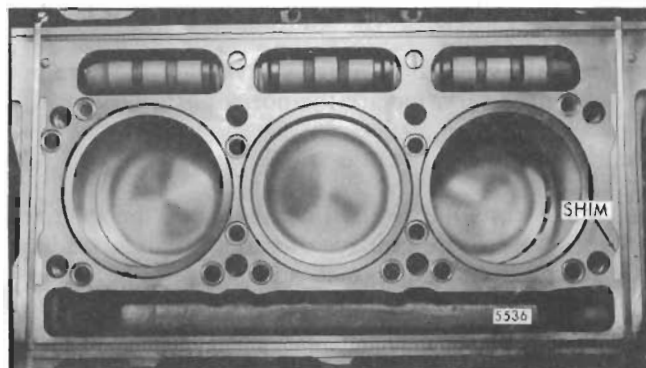

Fig. 9 - Cylinder Head Support Shims in Place
- b. To prevent end cylinder head bolt breakage, support shims (Fig. 9) are attached at each end of the cylinder block (two per cylinder bank). Remove the adhesive paper and place the support shims, adhesive side down, in position at each end of the cylinder block.
**IMPORTANT:** The scallop in the shim placed at the rear of the block must be at the oil supply hole (Fig. 9).